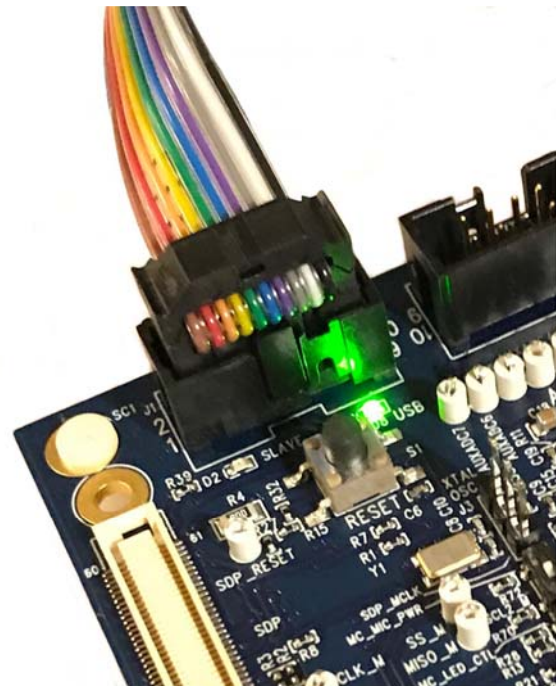

Figure 11. Connecting the USBi to the Serial Peripheral Interface (SPI) Control Port Header
4. Connect the ribbon cable of the USBi to the control port of the EVAL-ADAU1467Z (see Figure 11). The USBi must already be connected to the USB 2.0 port of the computer.